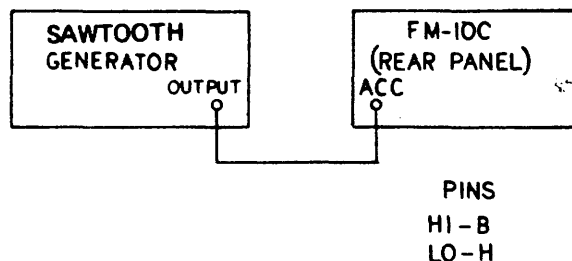

FIGURE 2-21
- b. Connect sawtooth generator to FM-10C as shown in Figure 2-21.